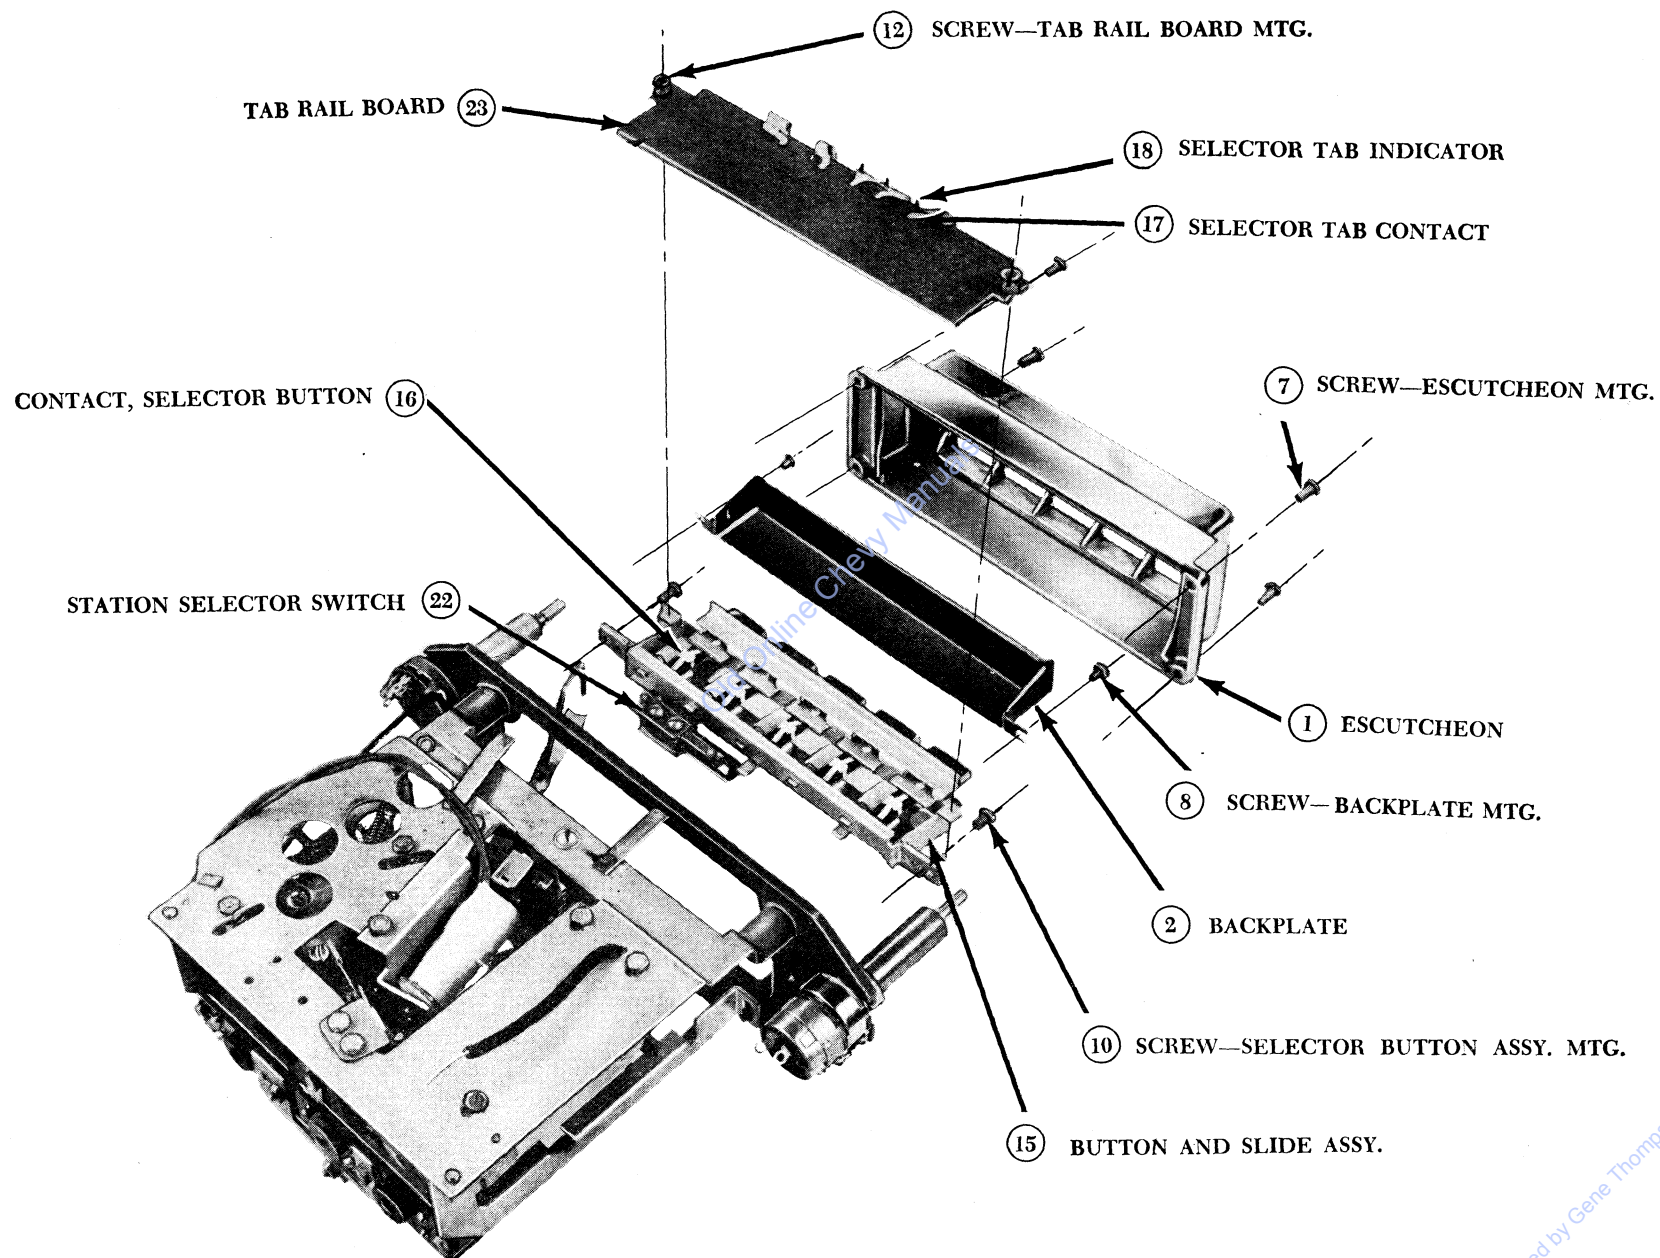

Fig. 19
4. Place the selector tabs on the new board in the proper sequence. (See Fig. 19)